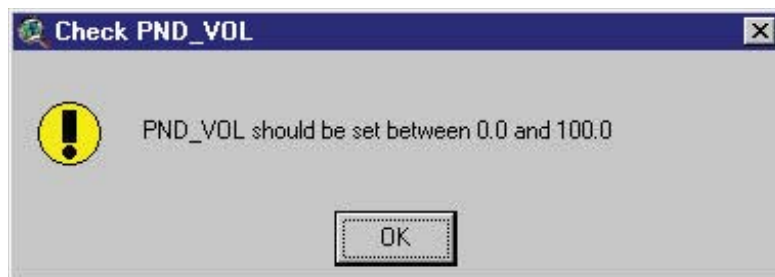

Figure 12.86
3. Edit data: Activate a parameter text box by clicking on it. Type the desired value. You can move to the next parameter text box by pressing the `Tab` key. If the value of the parameter is out of range, a message box like the one in Figure 12.86 pops up.